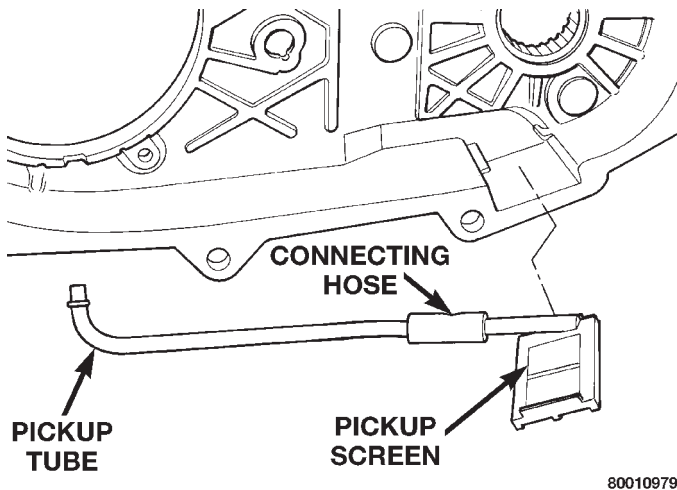

Fig. 19 Oil Pickup Screen, Hose And Tube Removal
(14) Remove oil pickup tube and screen from rear case (Fig. 19).